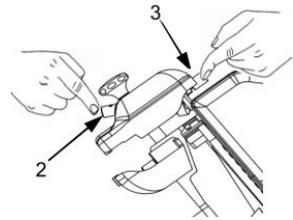

Fig. 28
8. Hold the buttons 2 and 3 simultaneously depressed for 3-4 seconds and activate both at the same time. (fig. 28).